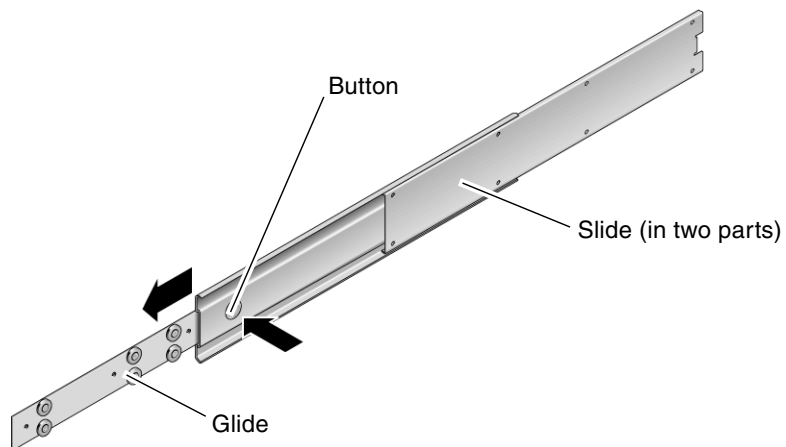

FIGURE 2-8 Dismantling the Slide
4. **Press in the button on each slide and pull the glide completely out of the slide (FIGURE 2-8).**